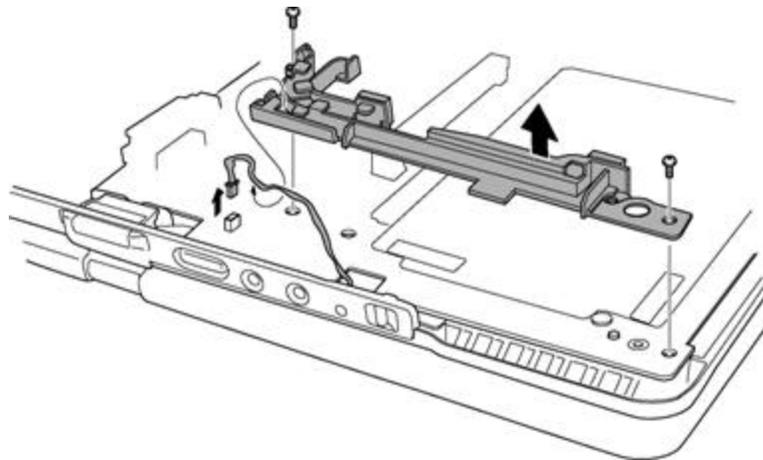

Figure 4-27 Removing the mic (L) cable guide
The following describes the procedure for removing the mic (L) cable guide. (See Figure 4-27.)
1. Disconnect the **mic (L) cable** from the connector **CN6060** on the system board and pull it out from the mic (L) cable guide.
2. Remove the following **screws** and **mic (L) cable guide** .
The following describes the procedure for installing mic (L) cable guide (See Figure 4-27).
1. Install the **mic (L) cable guide** to the system board and secure it with the following **screws** .